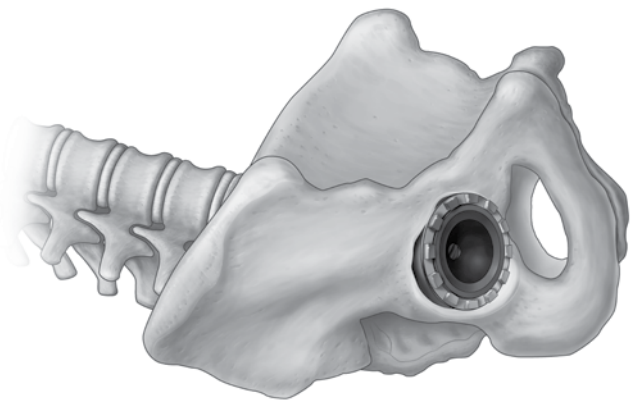

Figure 9
Step 3: Place the Liner Trial into the Acetabular Shell. The Liner Trial should remain in place until after trial reductions have been performed (*Figure 9*).